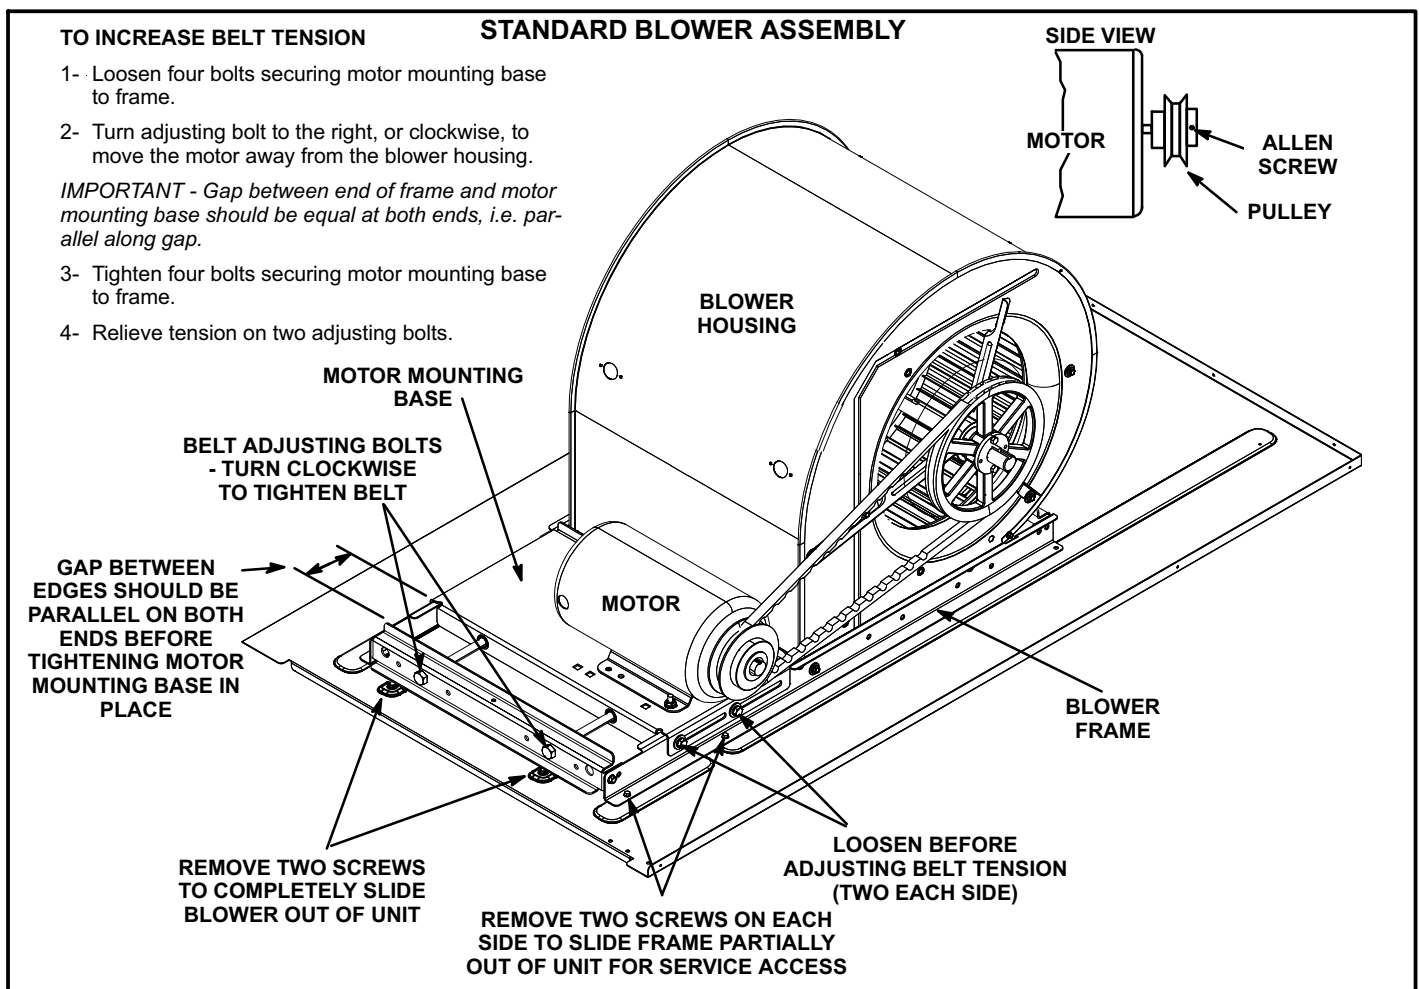

FIGURE 7
The blower assembly is secured to a sliding frame which allows the blower motor to be pulled out of the unit. See figure 7.
- 4- The blower RPM can be adjusted at the motor pulley. Loosen Allen screw and turn adjustable pulley clockwise to increase CFM. Turn counterclockwise to decrease CFM. See figure 7. Do not exceed minimum and maximum number of pulley turns as shown in table 1.
- 1- Loosen four bolts securing motor base to mounting frame. See figure 7.